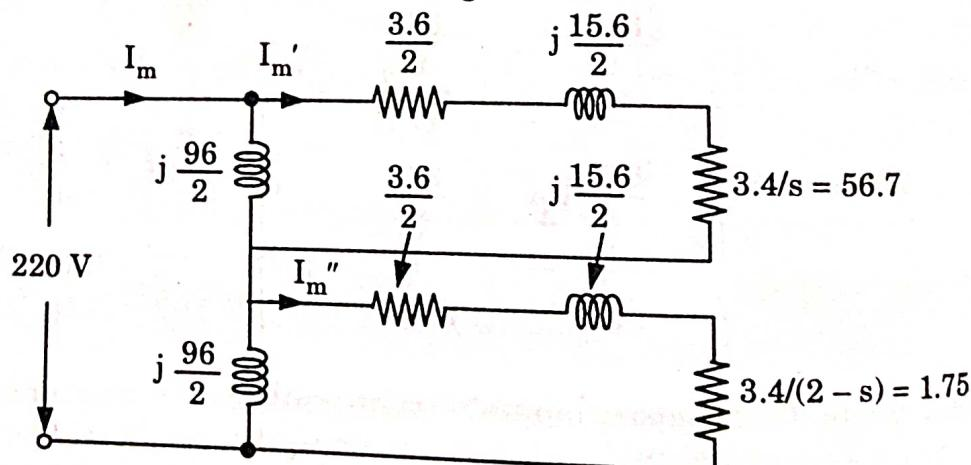

Fig. 5.4.1.
2. The circuit model is drawn in Fig. 5.4.1.